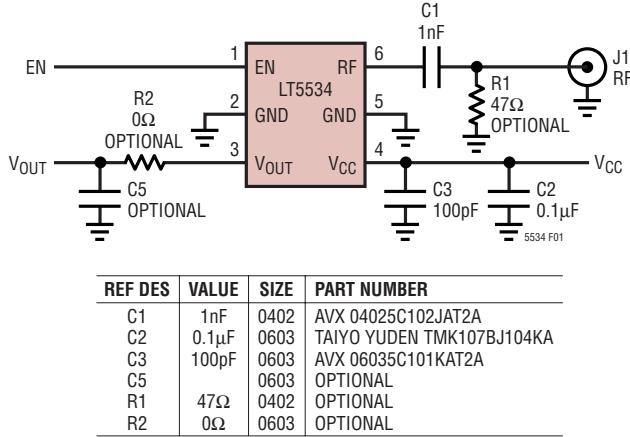

Figure 1. Evaluation Circuit Schematic
$V_{CC} = 3V$ ,  $EN = 3V$ ,  $T_A = 25^\circ\text{C}$ , source impedance =  $50\Omega$ , unless otherwise noted. Test circuit shown in Figure 1. (Note 2)
Test circuit shown in Figure 1. (Note 2)
**TYPICAL PERFORMANCE CHARACTERISTICS** (Test circuit shown in Figure 1)
## TYPICAL PERFORMANCE CHARACTERISTICS (Test circuit shown in Figure 1)
When the output is terminated with a load capacitance  $C_L$ , the slew rate is then limited to  $200\mu A/(C_L + 1.5pF)$ . For example, the slew rate is reduced to  $17.4V/\mu s$  when  $C_L = 10pF$ . A capacitive load may result in output voltage overshoot, which can be minimized with a series compensation resistor  $R_2$  as shown in Figure 1. The suggested resistor values for various capacitive loads are listed in Table 2.